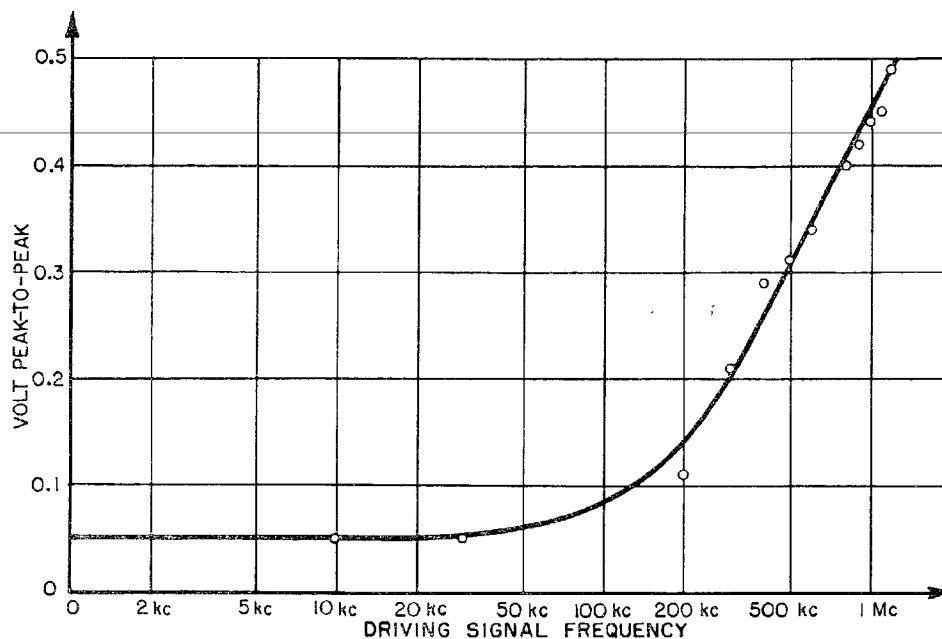

Figure 2-1. Typical sensitivity-vs-frequency characteristic.
f. Reset the audio-frequency generator to 1 kc and reduce the amplitude of the driving signal. When the Type 1217-B fails to synchronize, adjust the PRF control until synchronization is reestablished. When no further adjustment of the PRF control will reestablish synchronization, the triggering threshold has been reached (this should be at about 0.3 volt peak-to-peak to 1 kc). A plot of typical sensitivity is given in Figure 2-1.